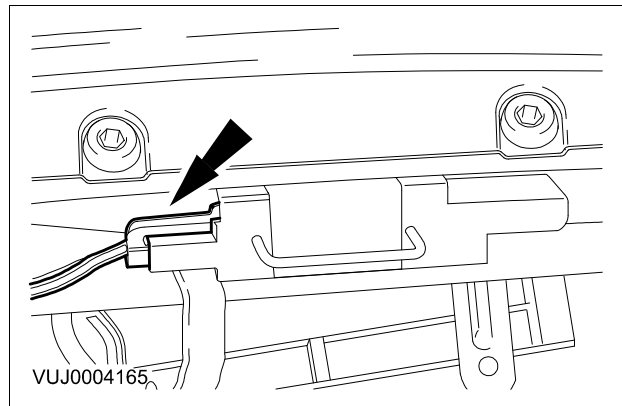

Fig. 3
- 8 Disconnect the glove compartment lamp electrical connector (see Fig. 3).